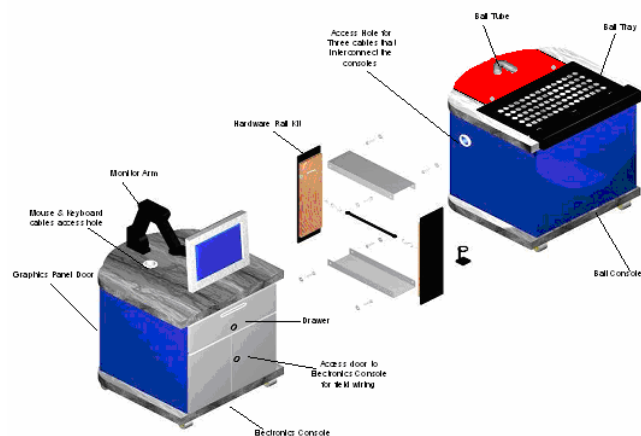

Figure 2.1
- ✓ Unlock the Electronics Cabinet drawer and open about one inch. Unlock and open the Graphics Panel door on the Electronics cabinet. Using access provided by the graphics panel door, feed the three cables from the Ball Blower Cabinet into the Electronics Cabinet. Insert the front Filler Panel between the cabinets in front of the console (IF TWO BALL CONSOLES ARE PRESENT FEED SECOND GROUP OF THREE CABLES FROM SECOND BALL CONSOLE INTO ELECTROICS CONSOLE). Attach the rubber bungee cord to the eye hook. Next attach the other end of the rubber bungee cord to the rear Filler panel. (**Note: Ensure that the cup holder is facing up**) (Figure 2.1)